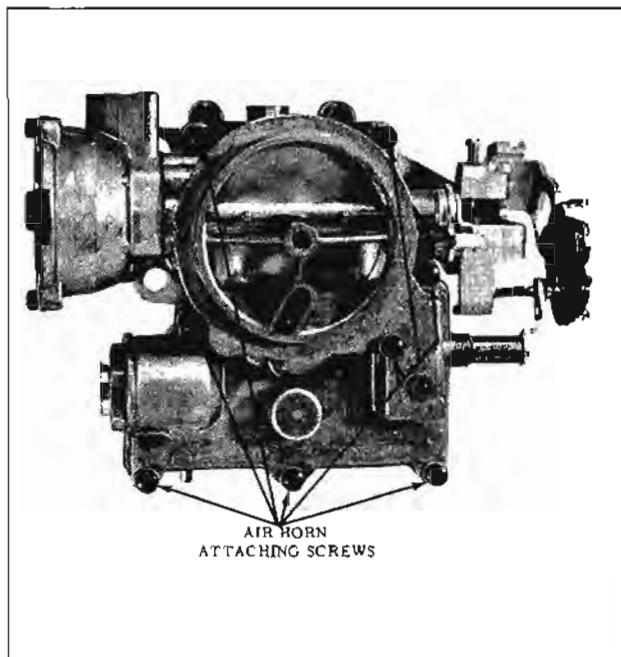

Fig. 9-150 Air Horn Attachment
8. Remove 8 air horn attaching screws and carefully remove air horn from float bowl by lifting upward. (Fig. 9-150)